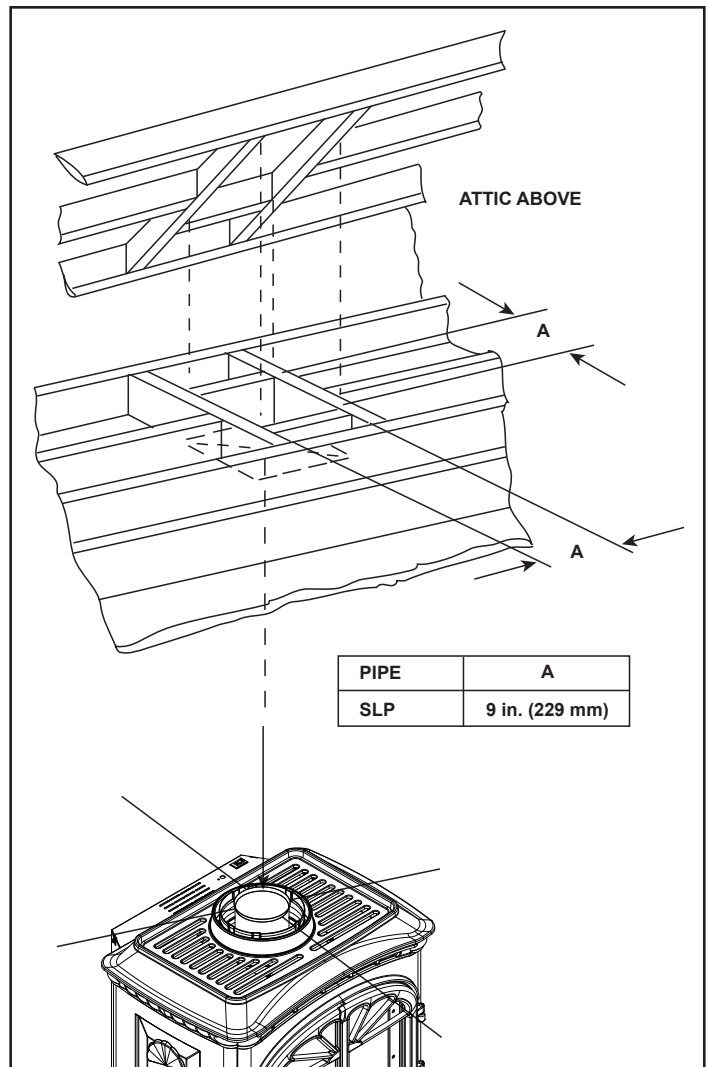

Figure 5.3 - Installing Ceiling Firestop
- **SLP Pipe** - Frame opening 9 in. x 9 in. (229 mm x 229 mm) whenever the vent penetrates a ceiling/floor, Figure 5.3.